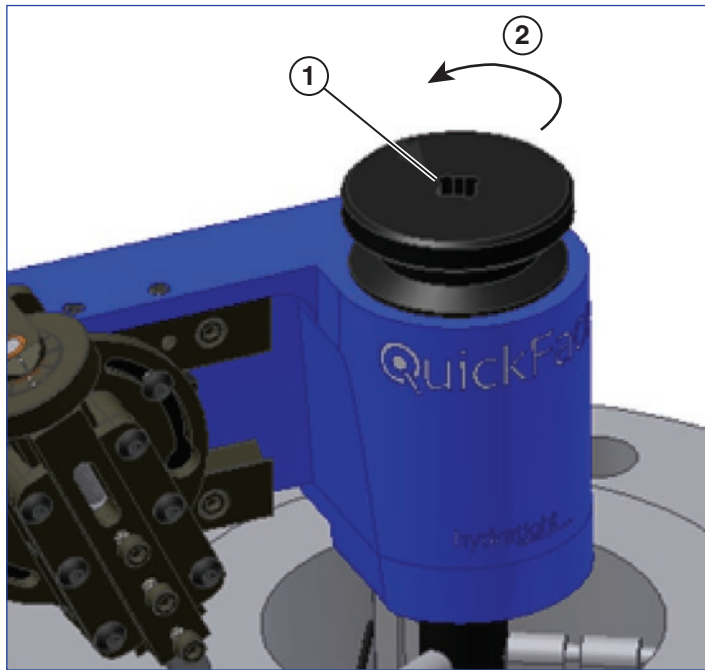

Figure 15
11.If the surface meets the desired results, remove the machine by turning the mandrel locking knob counterclockwise (see **Figure 15**). If the surface needs to be cut again, repeat steps 4 – 11 until complete.